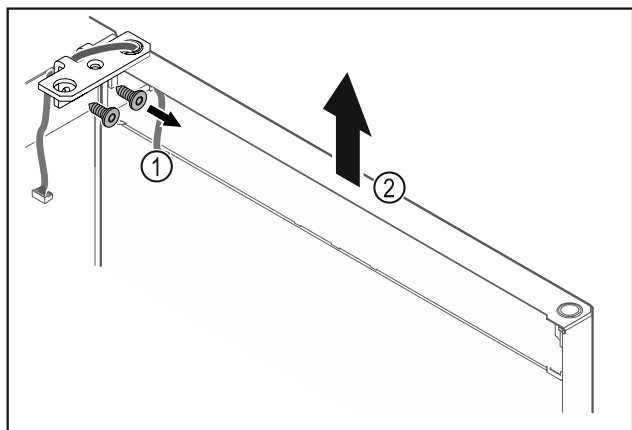

Fig. 24
- Unscrew the hinge Fig. 24 (1).
- Lift the door with the hinge straight up by Fig. 24 (2) roughly 200 mm and take it off.